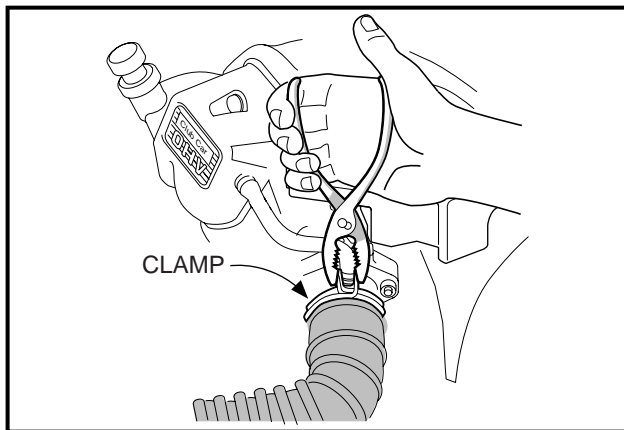

Figure 16-11 Air Intake Hose
- 3.2. Disconnect the air intake hose from the carburetor (**Figure 16-11, Page 16-8**).